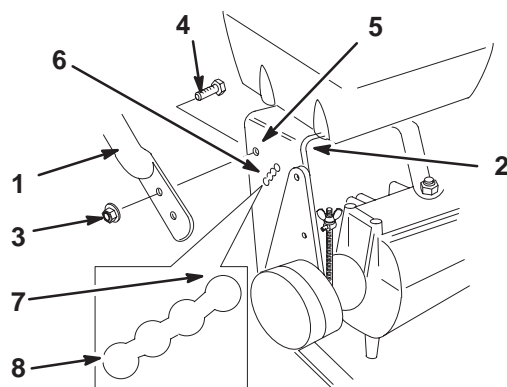

Figure 21
1. Remove hairpin cotter, washer and clevis pin securing control rod fitting to idler bracket (Fig. 21).
2. Loosen the upper flange bolts (3/8 x 1 inch) and flange nut securing handle to rear frame (Fig. 21).
3. Remove the lower flange bolts (3/8 x 1 inch) and flange nuts securing handle to rear frame (Fig. 21).